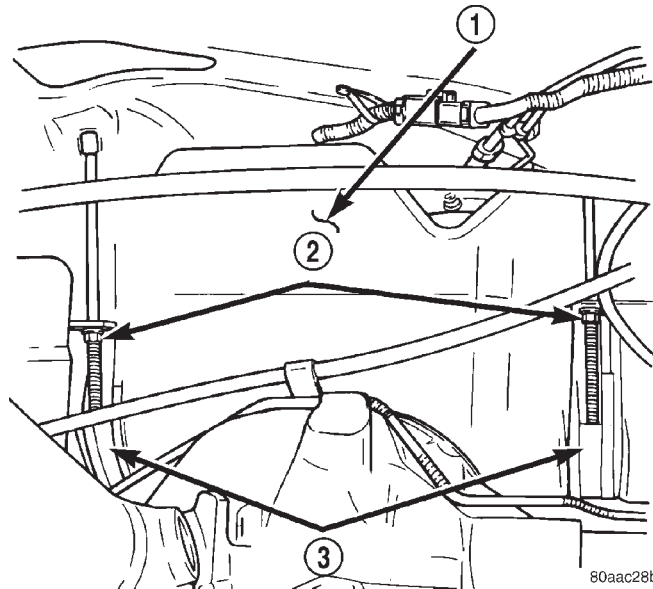

Fig. 36 Fuel Tank Mounting Straps/Nuts
(12) Remove two fuel tank strap nuts (Fig. 36). Position both tank support straps away from tank.
(13) Carefully lower right side of tank while feeding both fuel hoses through access hole in body. **Fuel Tank Full And Not Drained Using DRB Scan Tool:** To prevent fuel loss through hoses, keep left side of tank higher than right side while lowering.